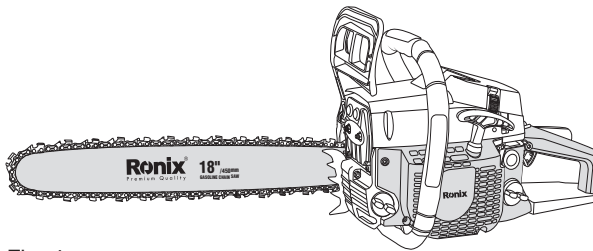

Fig. 4
1. Remove the bar lube reservoir cap (Fig. 4)